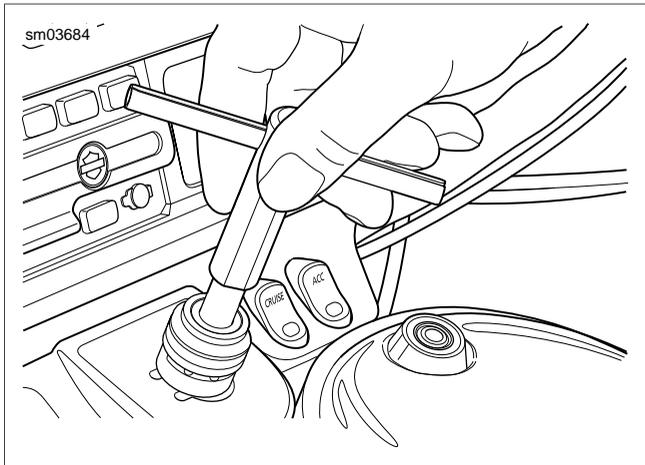

Figure 8-66. Rotate Alignment Tool Without Bottoming
- b. Remove knob and insert alignment tool so that the bottom of the handle is approximately 1/2-3/4 inch (12.7-19.1 mm) from the top of the threaded post, and then hold. See Figure 8-66.